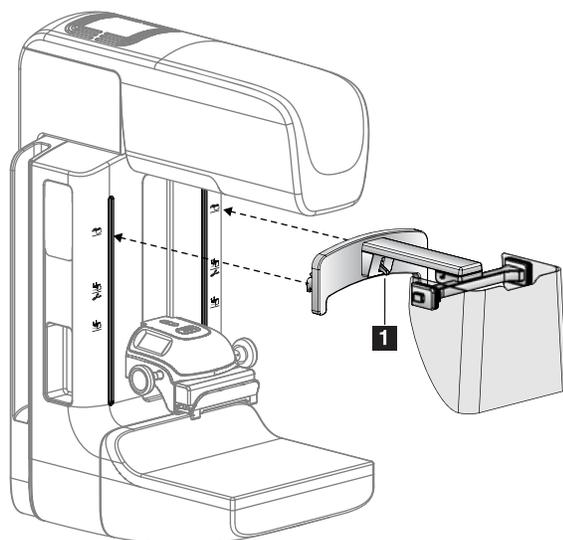

Figure 5-4: Installation
To install the Retractable Face Shield, see Figure 5-4, page 50:
3. Put the hooks on both sides of the Face Shield into the mounting slots on the C-arm. The Unlock Lever (number 1, Figure 5-4) will be in the Up position.
1. Press and hold the Unlock Lever (number 1, Figure 5-4) in the Up position.